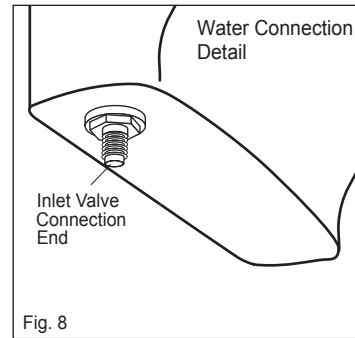

Fig. 8
10. Connect water supply to inlet valve connection end as detailed in Fig.8 and check operation.